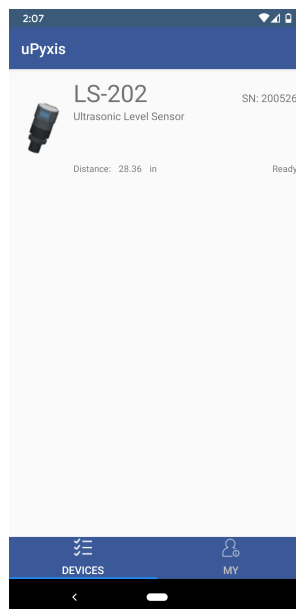

Figure 13.
1. Press the  button on LS-202 sensor until the Bluetooth mode changes to Peripheral mode (P).
4. If the connection is successful, the LS-202 and its Serial Number (SN) will be displayed (Figure 13).